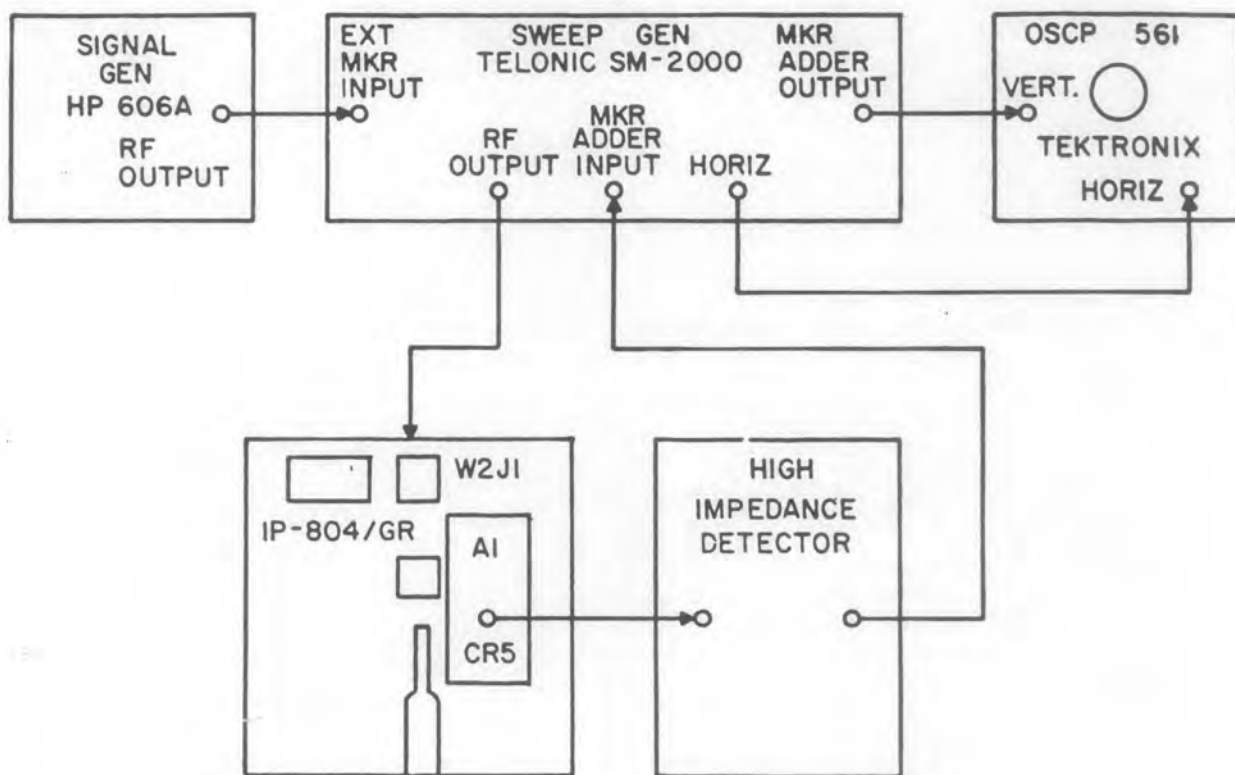
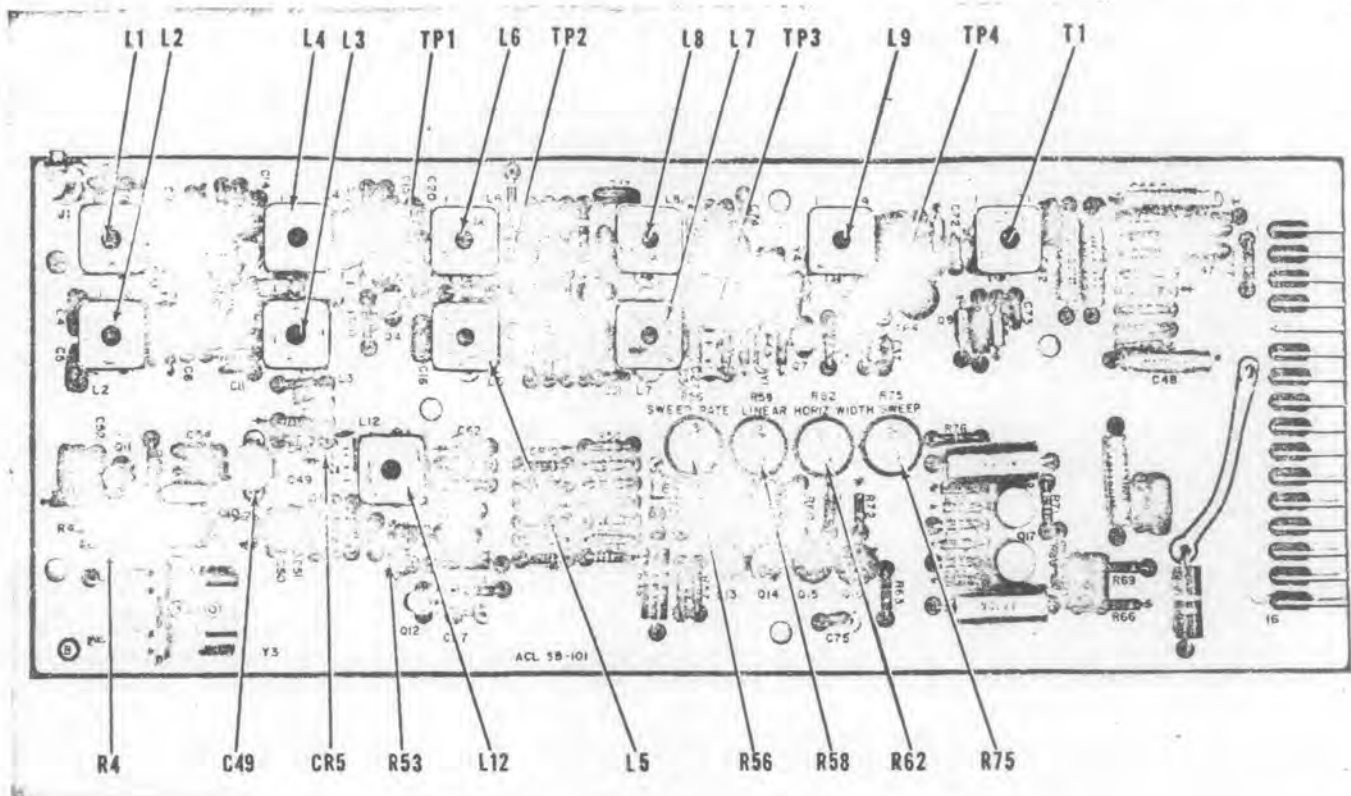

Figure 5-13. Signal Board Module A1 Test Equipment Setup
Figure 5-14. Signal Board Module A1
b. Connect test equipment as illustrated on Figure 5-13. The rf input to the panoramic indicator should be injected into the 21.4 MC INPUT connector A1J1 located on the signal board. The detector can be connected to the cathode side of diode CR5 or CR6 in order to monitor the output of the input amplifier, see Figure 5-14.
g. Adjust L1, L2, L3 and L4, (Figure 5-14) for a slightly overcoupled response centered around the 21.4 mc marker. Reduce the output level of the sweep generator as required to maintain peak-to-peak response on the oscilloscope at approximately 6 mv or less. The response should have a peak-to-peak bandwidth of approximately 3 mc. A minimum bandwidth of 3 mc is required at the 1 db points.
a. Set the signal generator to 455 kc and connect the generator output through a 0.01 μ f capacitor to TP4, located adjacent to Q9 on the A1 module, see figure 5-14.
a. Connect the signal generator set at 21.4 mc to the cathode of CR5 and CR6, figure 5-14.